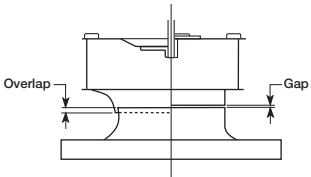

Figure 3
11. Rotate the wheel by hand to ensure that it does not rub and rotates freely. Wheel position is preset and the unit is test run at the factory. Movement may occur during shipment and realignment may be necessary. Refer to Figure 3 and chart for proper overlap dimensions.